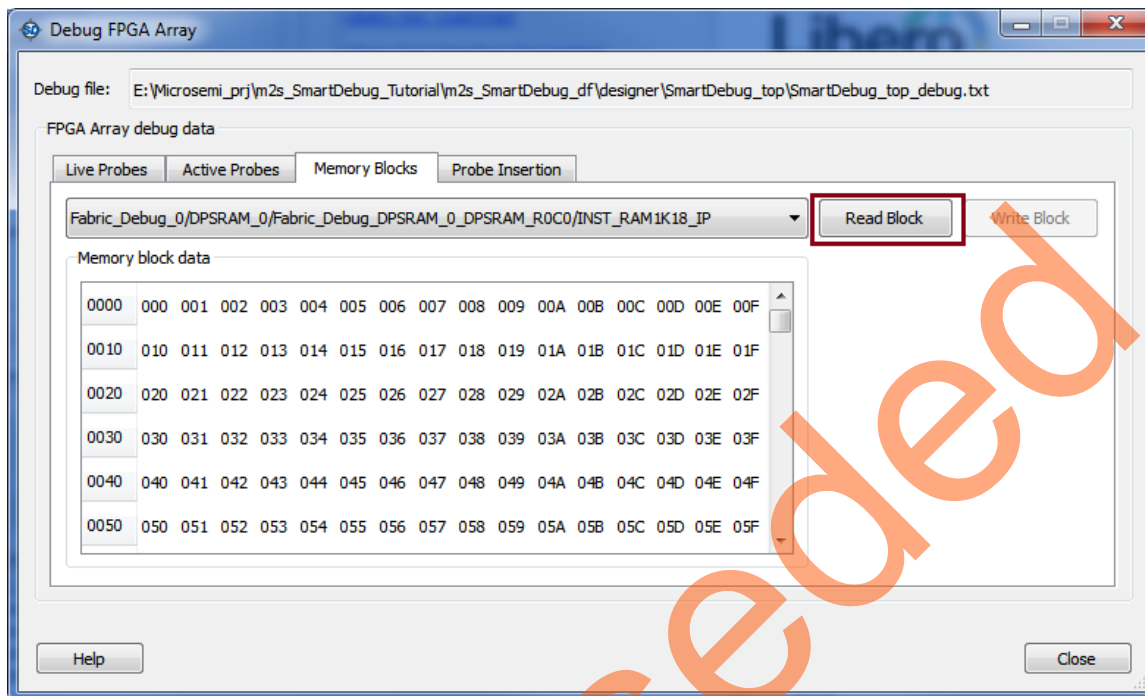

Figure 22 • DPSRAM_0 Contents
The contents of the DPSRAM_0 is displayed, as shown in Figure 22. See the counting pattern that is loaded into the RAM.
1. Read the memory content, as shown in Figure 22.